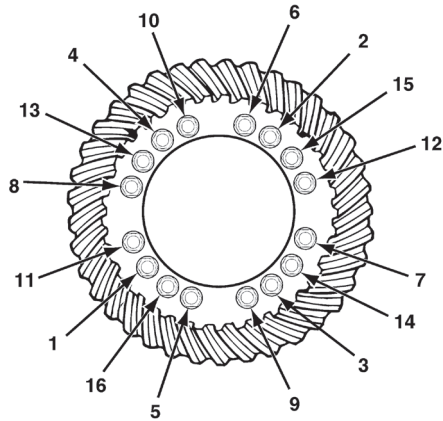

Figure 5.26
- A. Install four capscrews and washers or bolts, nuts and washers into the case halves. The distance between the fasteners must be equal. Tighten the fasteners to the correct torque value in a crisscross pattern opposite each other. See the Section 8. Figure 5.26.